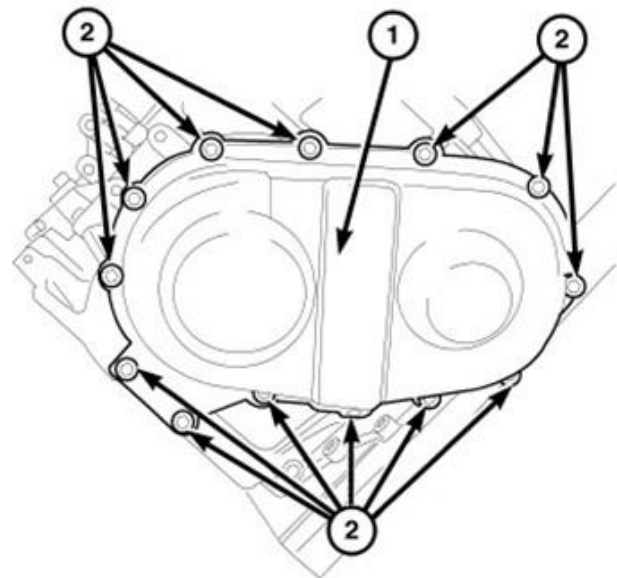

Figure 18 – Transfer Gear Cover
28. Remove transfer gear cover-to-case bolts (2) (Figure 18).
29. Remove transfer gear cover (1) (Figure 18).